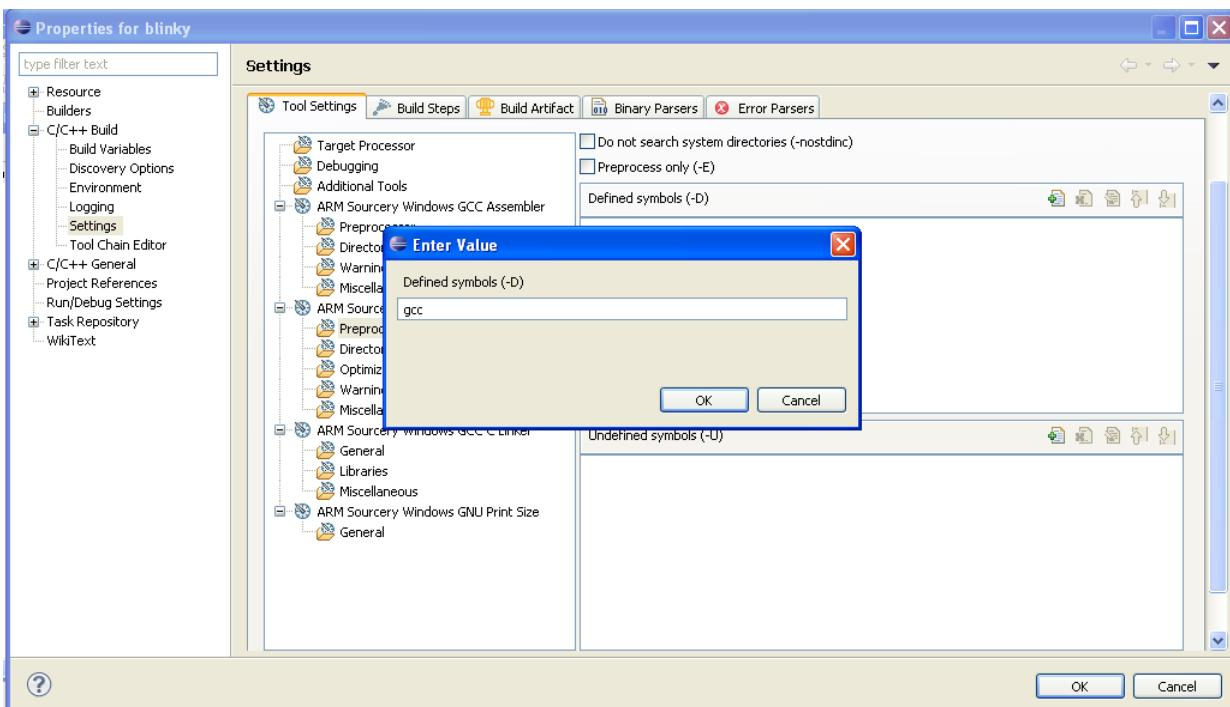

**Figure 14.10 Project Properties**
- Under Settings -> Tool Settings -> ARM Sourcery Windows GCC C Compiler -> Directories. Include the directory paths as shown in figure 14.10 and 14.11.